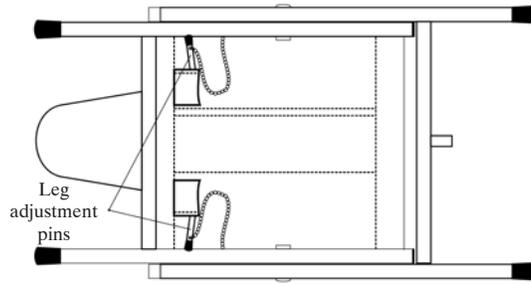

Figure 1 - Leg Adjustment Pin Location
2. Rotate the chair up onto one side and remove the leg adjustment pins from their storage pouch underneath the chair seat. (Fig. 1)
- 1. Seat Height-** The ADC-01 chair seat height can be set at any of the five preset settings. Without a patient in the chair, put your toe on one of the front chair legs and lift up slightly on the chair seat. While lifting and holding seat, remove the leg adjustment pin from the right and left side. Align link with tube hole in any of the five positions and lock in place by inserting the pin and chain assembly. (see Fig. 1)